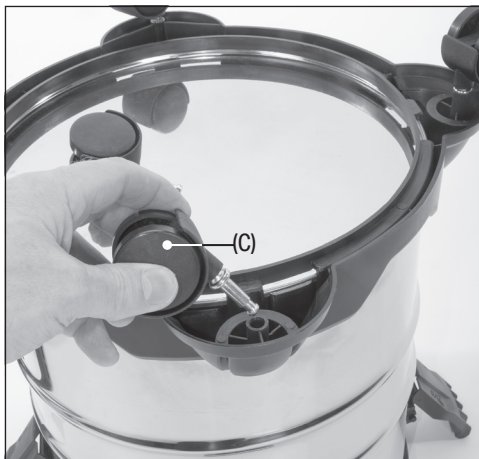

Fig. 1
- Firmly press the four castors (C) into the underside of the tank base. (Fig. 1).